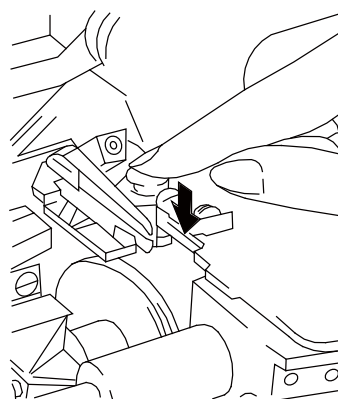

Figure 10
- ② 按下按钮, 如图10所示, 弯针挑线器会跳出来。
This machine has an oil filter (figure10) which should be cleaned every month or replaced by a new one whenever is necessary.